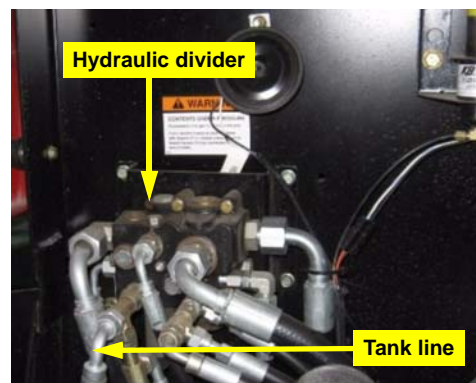

Figure 3c: Tank line location
- c. Disconnect the tank line from the front of the hydraulic divider (Figure 3c).